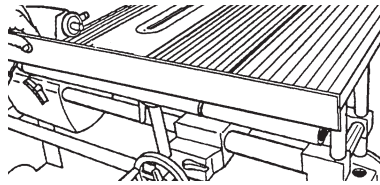

Figure 94
1. Place the Straightedge along the infeed side tops of both the Worktable and Extension Table Tubes, as shown in Figure 94.